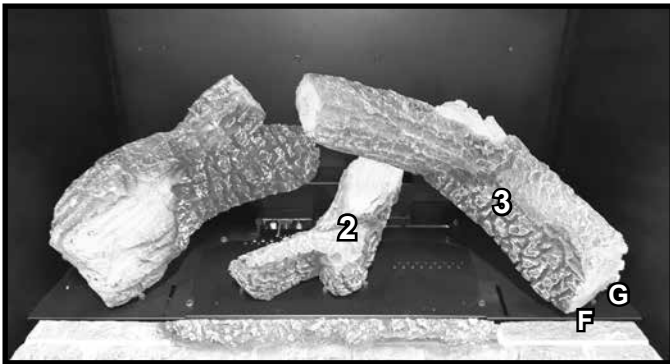

Figure 21. Log #3 Installed
**LOG #3:** With the burnout facing left, place the big end of Log #3 against log pin F and slide back until it contacts log pin G as shown in Figure 21. The small end will sit on the flat spot of Log #2.